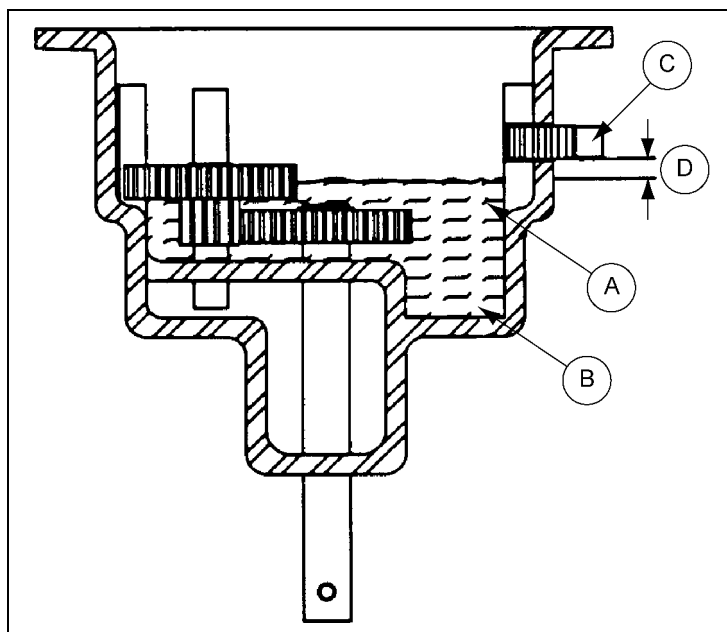

Figure 6A The gearbox assembly showing grease level.
For normal operation, annually relubricate both motor bearings with approximately ten (10) drops of 5W-30 oil. The gears of the gearbox assembly are lubricated with a special high temperature, food grade lubricant (SPD-2109) at the time of manufacturing. The level of grease in the gearbox should be checked annually and will normally not require further lubrication unless seal breakage occurs. After the grease has settled to the bottom of the gearbox, the grease level can be checked. The grease level should not be more than 1/4" below the vent plug. (See Figure 6A.) It may be necessary to insert a wire through vent plug hole to find the grease level. The level also can be checked by removing motor and viewing grease level through hole for motor pinion gear.